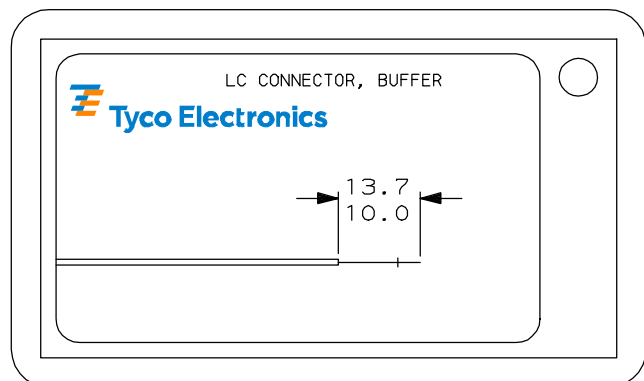

Figure 3
2. Using the combination strip tool, strip the coated or buffered fiber using the cable preparation template (dimension is to scale) or use the dimension given in Figure 3, exposing the glass cladding.